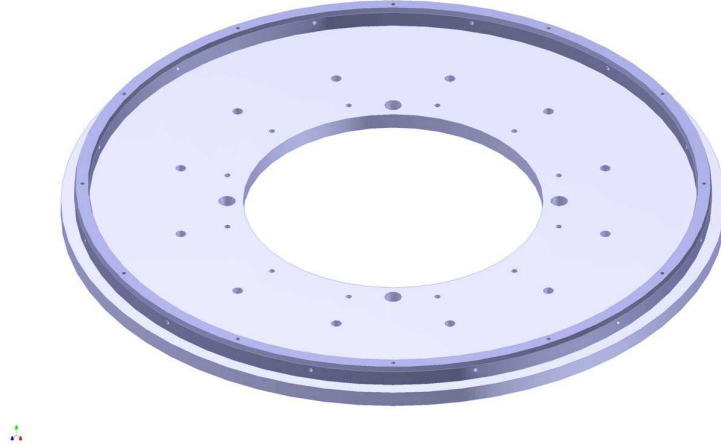

Figure 1: Bottom plate with locating ring for the lead shield (stand not shown).
1. Start with the bottom plate resting on a stand (see Fig. 1). The bottom plate already has the lead shield locating ring.